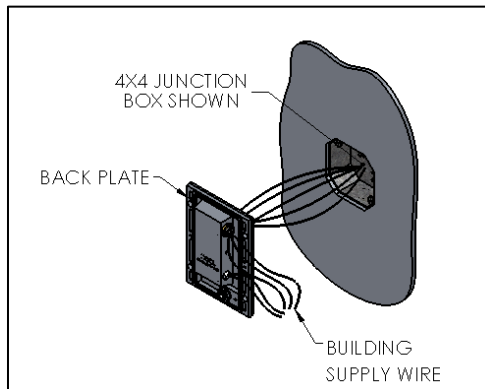
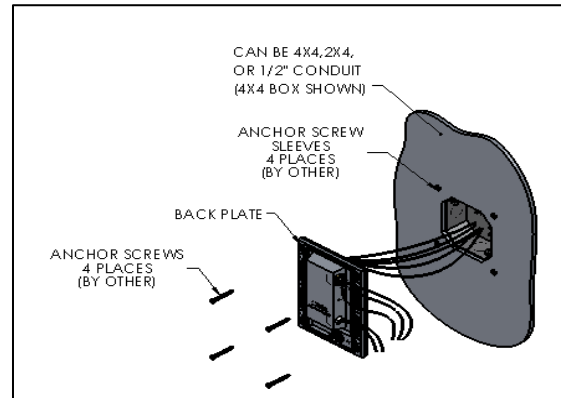

FIG. 7- BACK PLATE DIS-ASSEMBLY
FIG. 8- BACK PLATE INSTALLATION
4. Pull BUILDING SUPPLY WIRES into the BACK PLATE through the hole.as shown in FIG 7. And Install BACK PLATE to the wall with ANCHOR SCREWS (by others) appropriate for the mounting surface. Orientate the back plate with the vent down as shown in FIG 8.